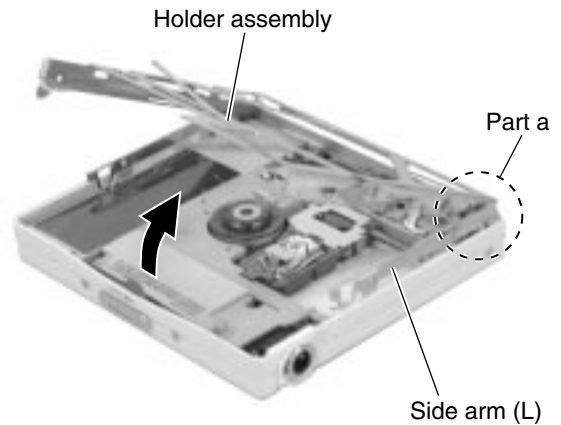

Fig.3
## ■ Removing the holder assembly (See Fig.3 and 4)
1. Turn the holder assembly as shown in Fig.3.